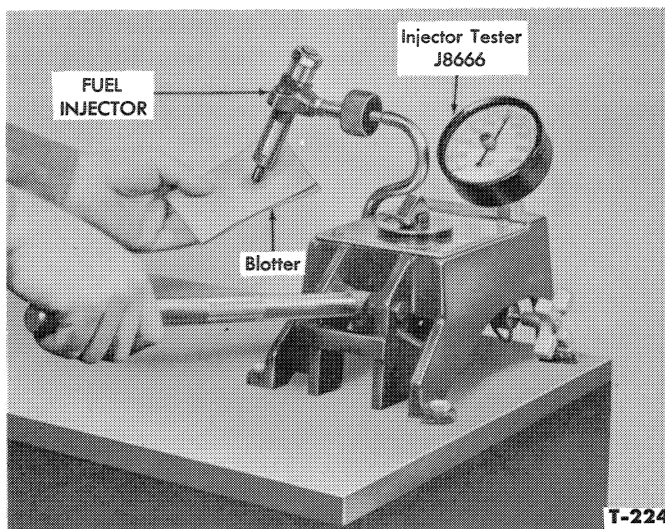

Figure 9—Checking Nozzle Seat Leakage
3. Wipe the nozzle tip dry with clean blotting paper. Apply pressure to the injector, 150 psi below the nozzle opening pressure and hold the pressure for one minute. Apply a piece of blotting paper to the tip of the nozzle as shown in Figure 9. The fuel oil stain should not exceed $\frac{1}{2}$ inch diameter.